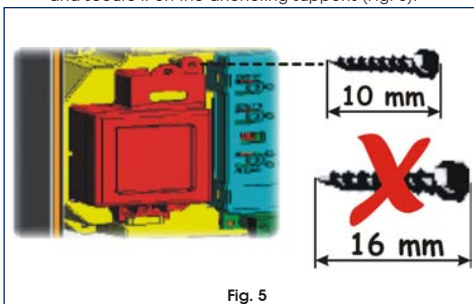

Fig. 5
2. Insert the battery in the housing you have just created, and secure it on the anchoring supports (Fig. 5).